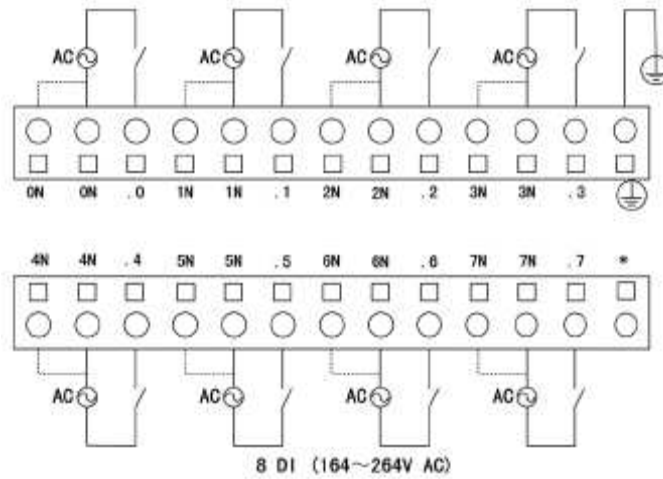

Figure 3-1-3 LM3211 Terminal Definition and Wiring
- 220VAC input signal connects between mN and m (m stands for number 0 to 7) and mN is connected inside circuit board (shown by broken lines in Figure 3-1-3). The terminal on the right end of upper level terminals can connect ground protection (or earth).